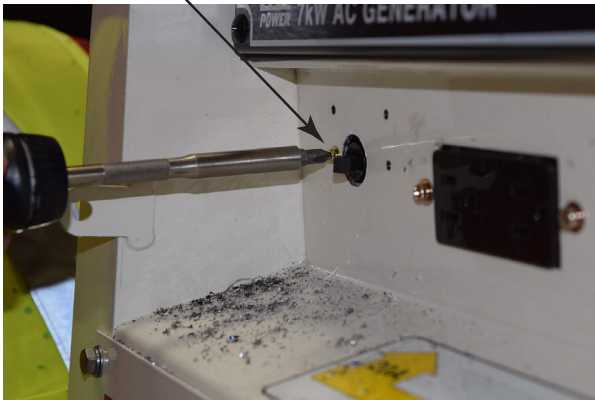

Figure 7. Securing CB1
8. Secure CB1 with four M3 screws (P/N Y0027103006) on the front of the generator (Figure 7).